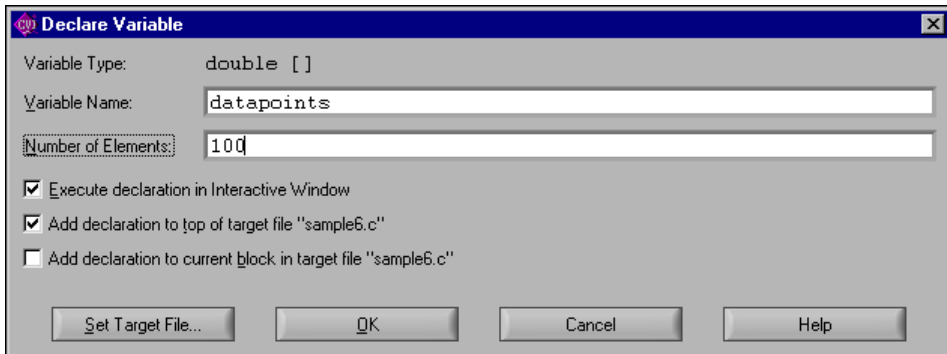

Figure 8-3. Declare Variable Dialog Box
4. Enable the **Add declaration to the top of target file "sample6.c"** option. Confirm that your Declare Variable dialog box matches the one shown in Figure 8-3.